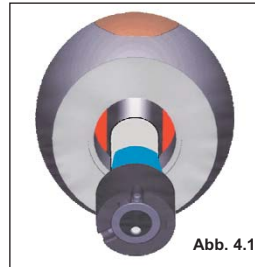

Abb. 4.1
Take the new bulb and push this along the retaining slots into the frame. Rotate the bulb in such a way that both locking pins of the bulb holder sink into the retaining slots of the frame. Make sure that you do not touch the glass of the bulb with your bare fingers, or else wipe this with a clean cloth. Pick up the turn indicator housing and hold this with the thread opening facing upward. Rotate the frame and the bulb in such a way that the two orientation bars (marked in blue in Figure 4.1) of the frame are visible between the crescent shaped contact surfaces of the guiding channels in the turn indicator housing (marked in red in the Figure). Let the frame and bulb slide downward into the tapped hole. Take hold of the multi-functional part (4) and screw in the turn indicator housing carefully with your hand. If the multi-functional part cannot be screwed in, the frame is not correctly aligned in the turn indicator housing. In this case, align the frame and bulb again. Rotate the turn indicator housing again as described above on the multi-functional part. If the thread plate locks precisely with the turn indicator housing, use a 10 mm slim spanner on the flats of the multi-functional part and bolt the multi-functional part on. Then push the turn indicator into the handlebar up to the halfway point of the rubber attachment and proceed as described in Chap. 3.4. Do not forget to lock and adjust the accuracy of the turn indicator.